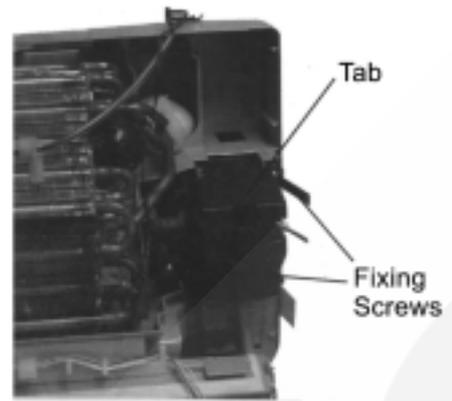
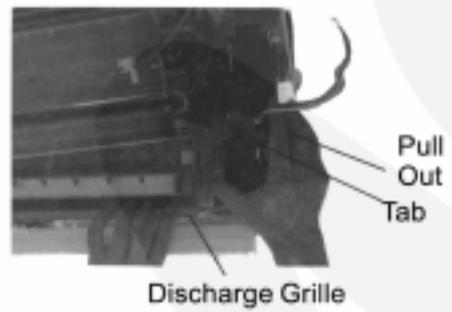

Fig 6
Fig 7
2. Untighten two fixing screws of the fan motor, release two tabs and remove the discharge grille. (Fig 6, Fig 7)